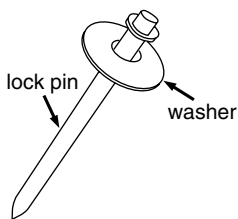

Figure 26
6. Slide washer onto lock pin and place inside upper cabinet for future use as directed on the next page. See Figure 26.